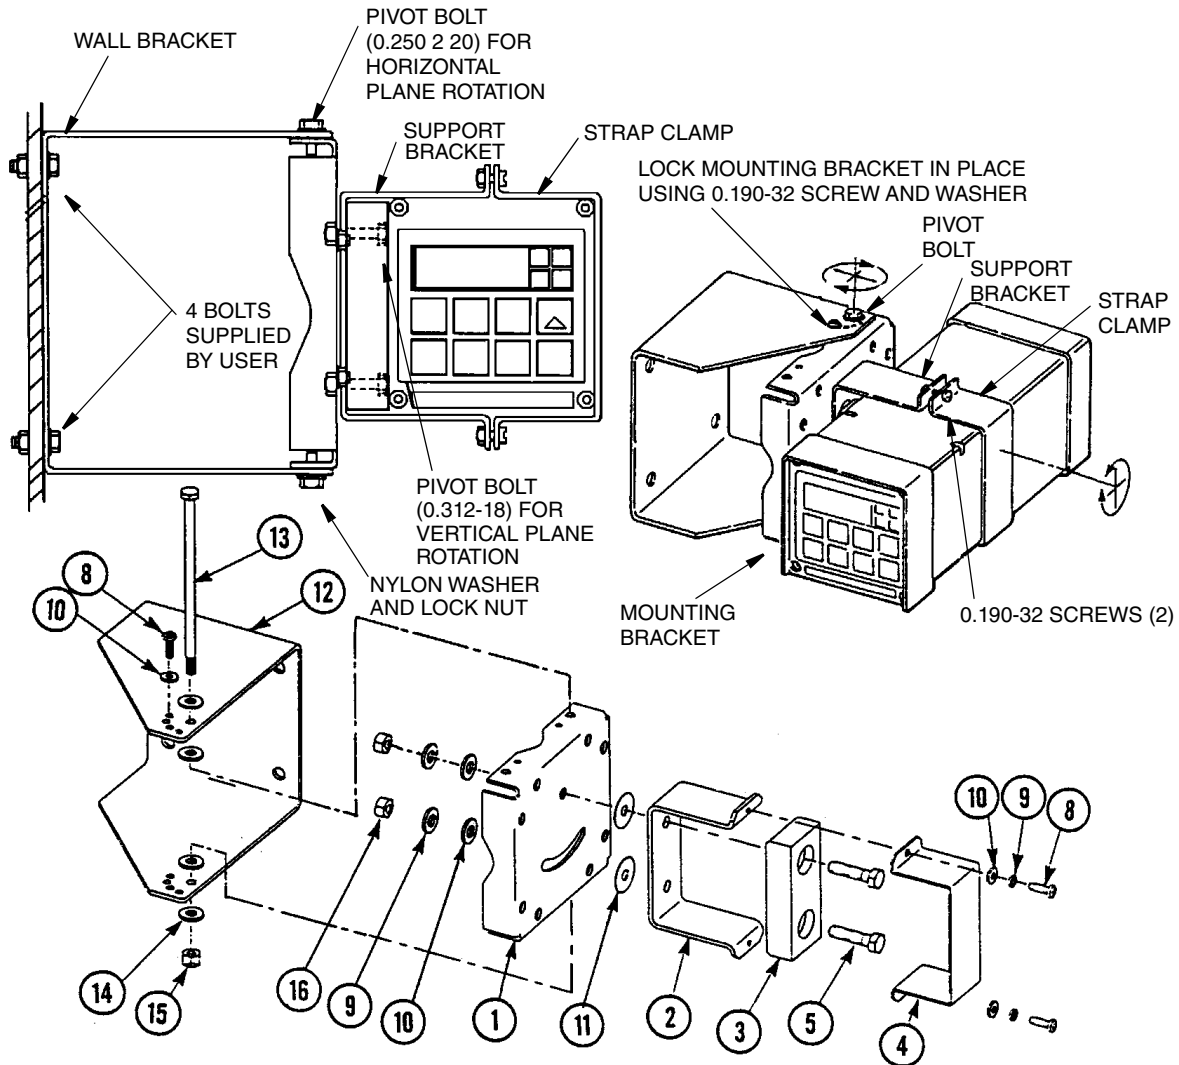

Figure 9. Metal Enclosure - Movable Mount
2. Referring to Figure 9, use wall bracket (12) as template for drilling four holes into mounting surface. Notice that the holes in the wall bracket are 9.53 mm (0.375 in) in diameter.
3. Attach wall bracket (12) to surface using four bolts, washers, and nuts.
- a. Place hex bolts (5) through spacer (3) into support bracket (2).
- b. Slide nylon washers (11) over bolts (5).
- c. Slide bolts through universal mounting bracket (1) and fasten assembly finger tight with hardware designated 9, 10, and 16.
5. Slide Analyzer into support bracket and slide strap clamp (4) onto Analyzer. Using two screws, nuts, and washers, attach strap clamp to support bracket to secure Analyzer.